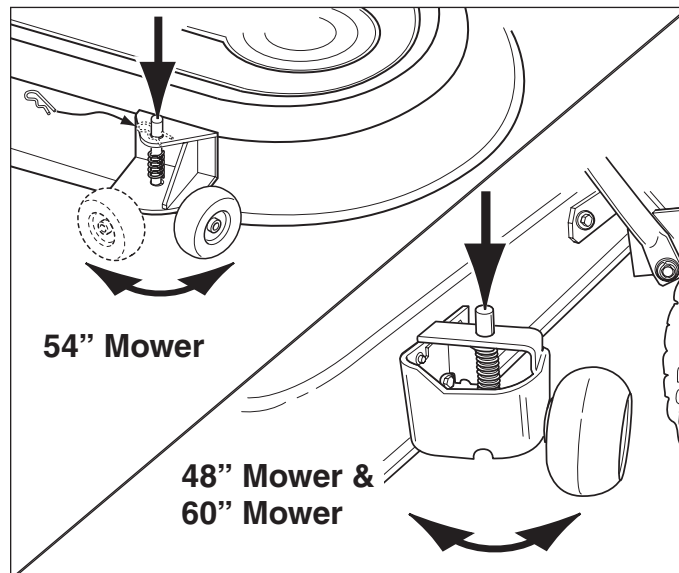

Figure 12. Pivoting the Gauge Wheels
5. Pivot the two front gauge wheels from mowing position to sliding position by pushing down on the top of the spindle and pivoting the wheel (see Figure 12).
5. Remove the hair pin clip, push down on the top of the spindle, and rotate the gauge wheel into sliding position (see Figure 12). Replace the hair pin clip.
16. Pivot the two front gauge wheels from sliding position to mowing position by pushing down on the top of the spindle and pivoting the wheel (see Figure 12).